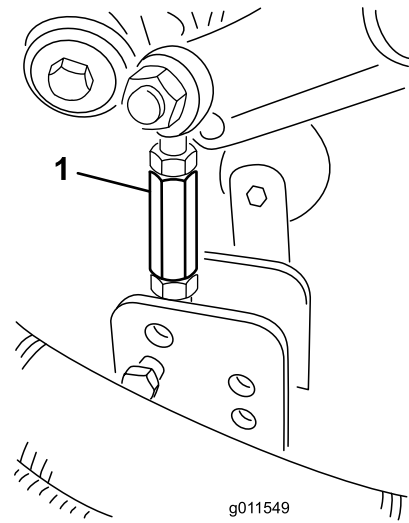

Figure 25
9. Remove the hairpin cotters and clevis pins securing the damper links to the mower-deck brackets (Figure 25).